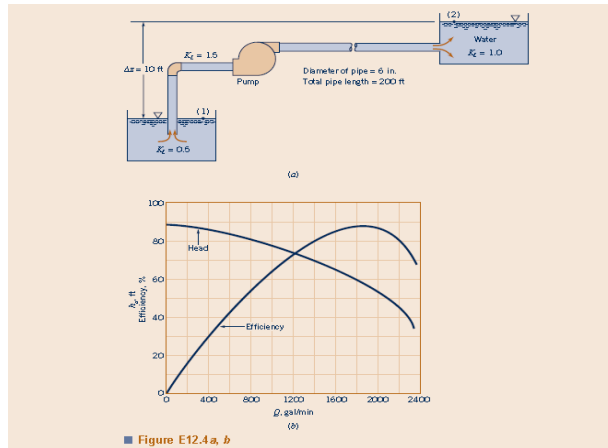

Figure E12.4a, b
**GIVEN** Water is to be pumped from one large, open tank to a second large, open tank as shown in Fig. E12.4a. The pipe diameter throughout is 6 in., and the total length of the pipe between the pipe entrance and exit is 200 ft. Minor loss coefficients for the entrance, exit, and the elbow are shown, and the friction factor for the pipe can be assumed constant and equal to 0.02. A certain centrifugal pump having the performance characteristics shown in Fig. E12.4b is suggested as a good pump for this flow system.